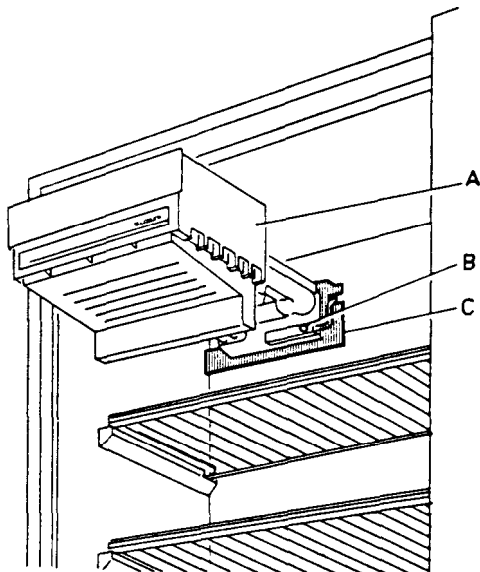

Fig. 39
5. Remove the evaporator cover with its flap "A" by means of pulling it outwards which will release it from the evaporator. (See Fig. 39).